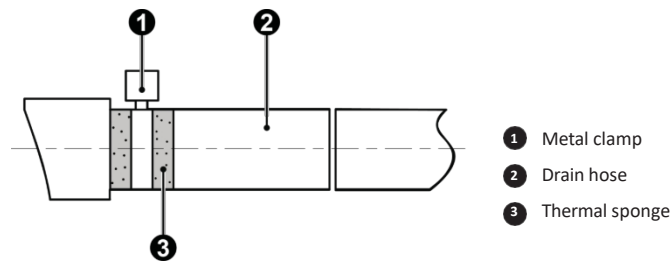
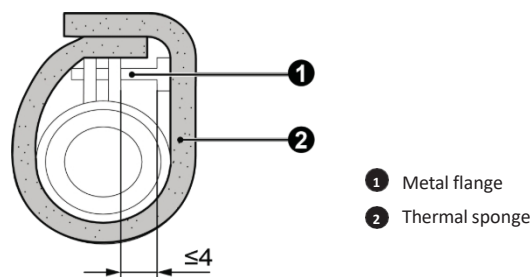

Fig. 4.9
Fig. 4.10
- 1 Insert the drain pipe into the drain hole and secure it with straps, see Fig. 4.9.
- ① Metal clamp (accessory) ② Drain hose (accessory) ③ Gray tape (accessory)
- 3 Use the sealing plate to insulate the clamp and the pipe; see Fig. 4.10.
- ① Metal clamp (accessory) ② Thermal pad (accessory)